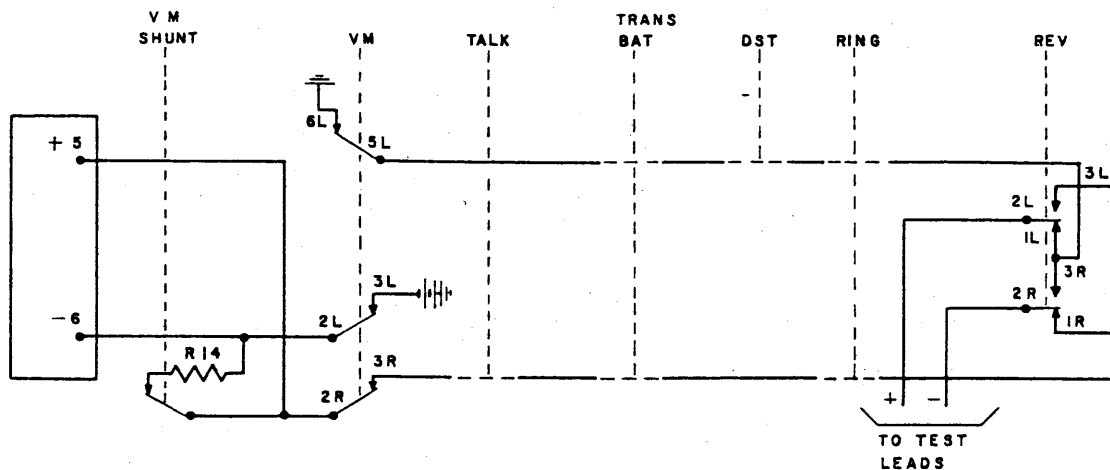

Figure 7. Test of loop resistance.
3.4.2 Checking loop resistance, Refer to figure 7. Operate the OUT key and the VM key. Note the voltage on the meter and find approximate resistance from table in rear. If less than 45,000, operate the VM SHUNT key and read the meter, noting the voltage. Find the resistance from TABLE II. If the battery voltage does not appear in the table, resistance may be calculated from the following formula: $X = R (E - V) / V$; where X is the resistance of the loop, E equals the test battery voltage, R equals the internal resistance of the voltmeter (100,000Ω) and V is the voltmeter reading. With the VM SHUNT key operated, the value of R will be 1000Ω.